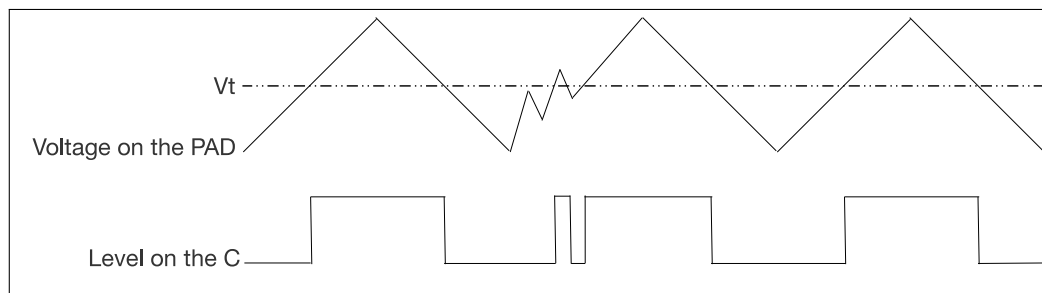

Figure 5.10-1. Example of Level Flip on the Chip Pad — Hysteresis Function Not Enabled
Each GPIO pin has hysteresis functionality. When hysteresis is not enabled, as shown in Figure 5.10-1, the level flip of the signal (C) input to the chip from the PAD has only one threshold (V_t , about 1.7 V). When the voltage on the PAD is higher than V_t , the level on the C is high. Otherwise, it is low. However, noise on the PAD may affect the signal on C.